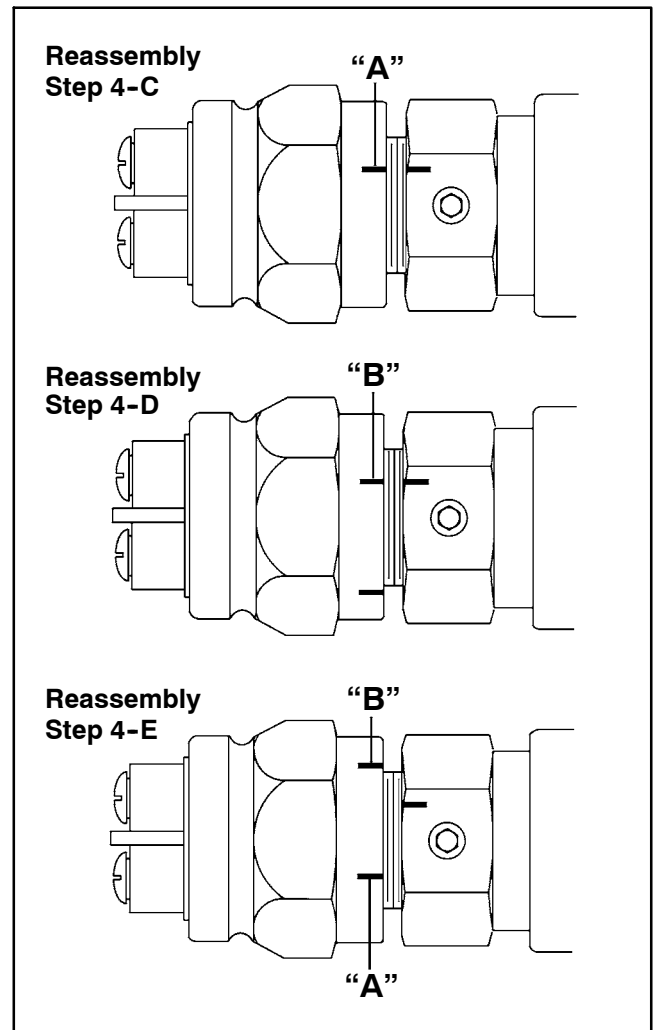

Figure 52
1. Install new o-ring (11) onto adapter and new o-ring (16) onto pin.
C. Move the link out of the detent position. The test light will go on (continuity). Screw in the switch until the light goes off (no continuity). Mark this as position "A" (Fig. 52). Move the link to the detent position and the test light should come back on.
E. Unscrew the switch one third of the distance between "B" and "A". Install and tighten the set screw (17) in one of the upper quadrants of the hex of the switch adapter (Fig. 52). Torque set screw from 28 to 34 in-lb (3.2 to 3.8 N-m).